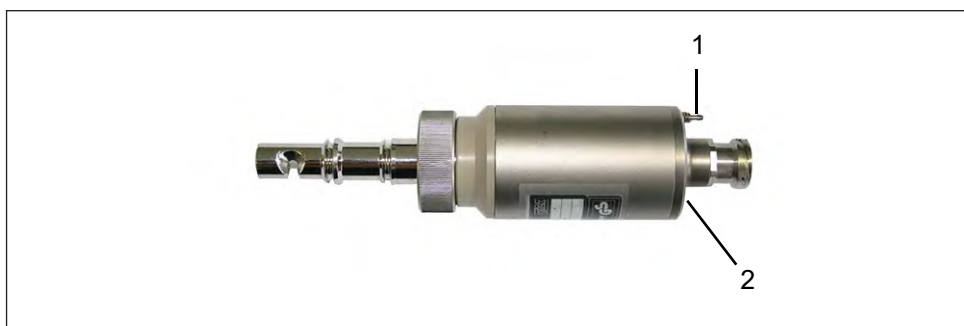

Fig. 6: Airpurge connection on sensor
1. Loosen the cylinder nut (2 in Fig. 6) turning it 2-3 turns anticlockwise.